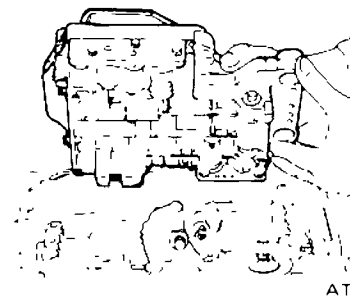

Fig AT 54 Removing valve body
5. Remove bolts which hold valve body to transmission case. See Figure AT-54.